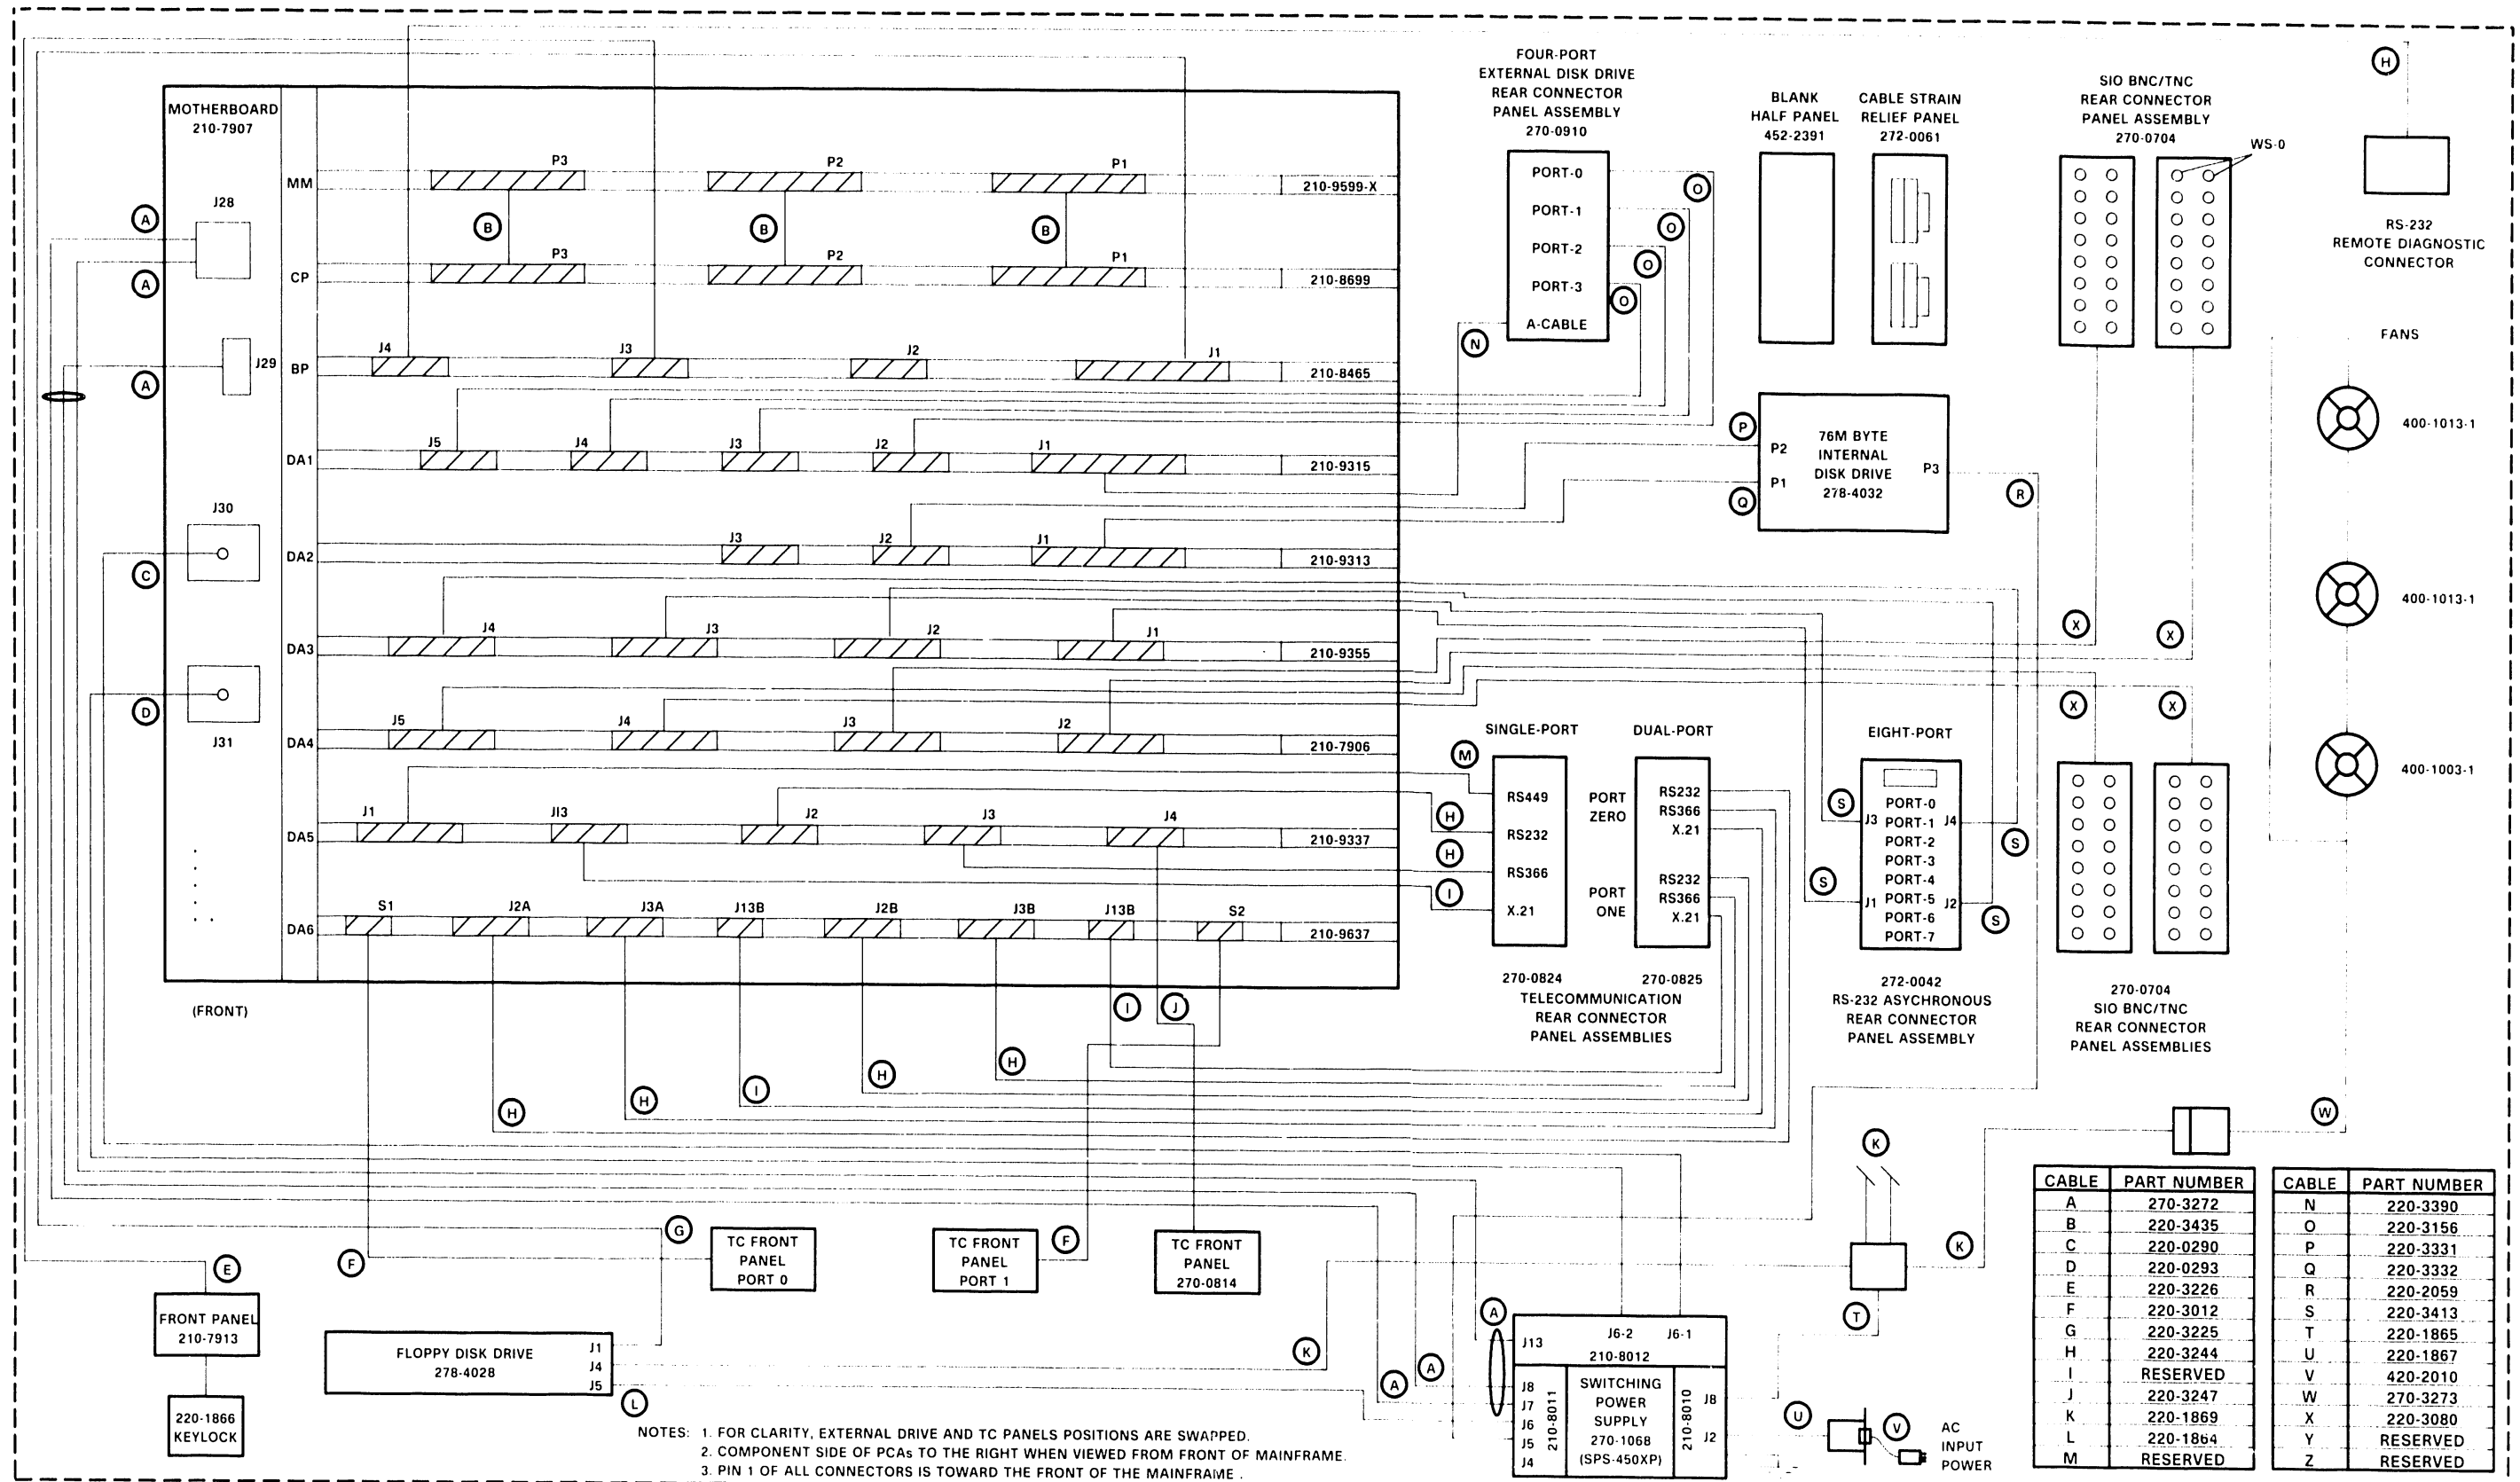

Figure D-12. System Interconnection Diagram
1. When using the VS-45XP System Interconnection Diagram (figure D-12), pay close attention to the major differences between the VS-45XP and VS-65 systems. The motherboard connectors, the diskette drive, most cables and rear panel assemblies, and the power supply do not agree. Be sure to use the correct figures and tables listed in this PUB.